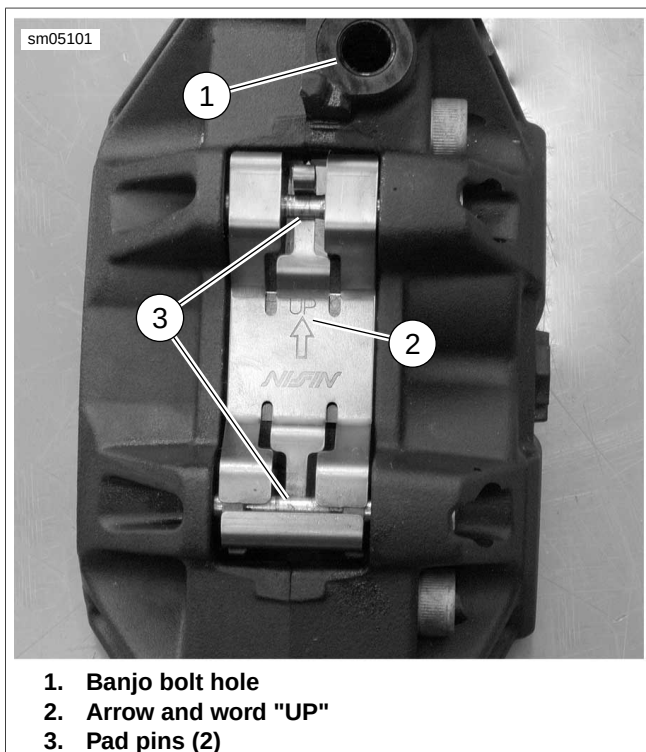

Figure 1-35. Front Caliper Pad Spring Orientation
See Figure 1-35. When replacing front brake pads, make sure pad spring is installed with the arrow and word "UP" (2) pointing up, and captured by both pad pins (3).
- Pad spring orientation must match Figure 1-35.